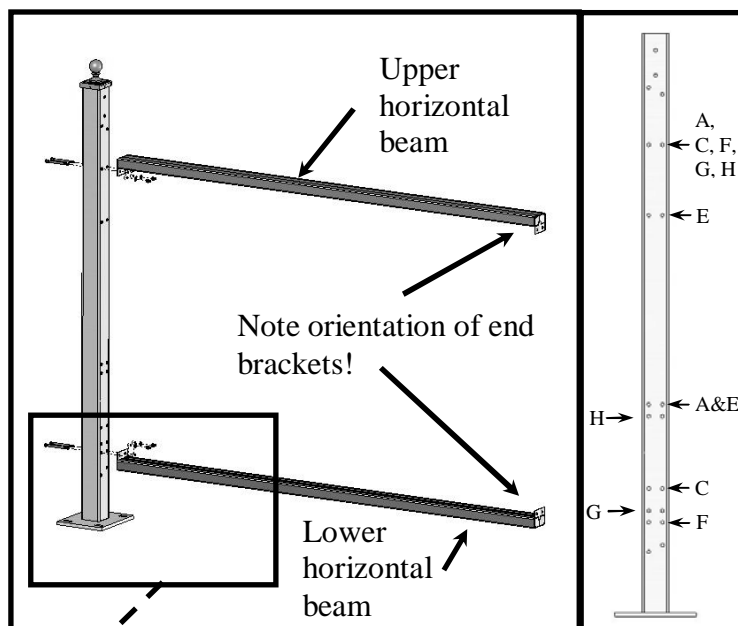

Figure 8 – Installation of horizontal mounting beams
- b) Install the upper and lower horizontal beam(s) between the vertical uprights using (4) 48192 bolts, (4) 48175 washers, and (4) 48177 nuts per beam. *Do not completely tighten hardware yet. See Figures 8 and 9.*